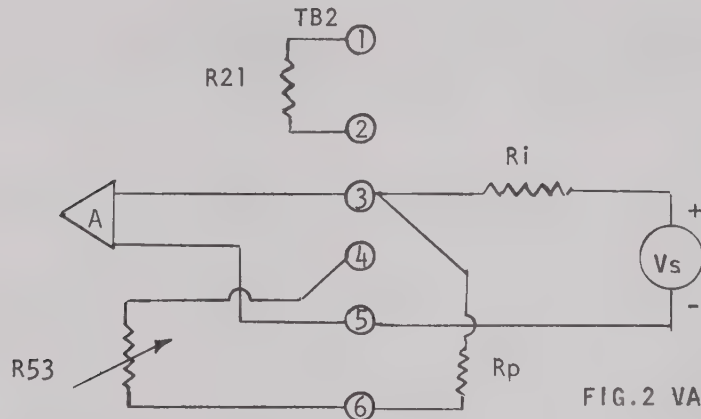

FIG. 2 VARIABLE GAIN
- 3) Place Ri (1.78K suggested) in series with the signal source and connect as shown in Figure 2 between TB2-3 and TB2-5 observing the proper polarity.